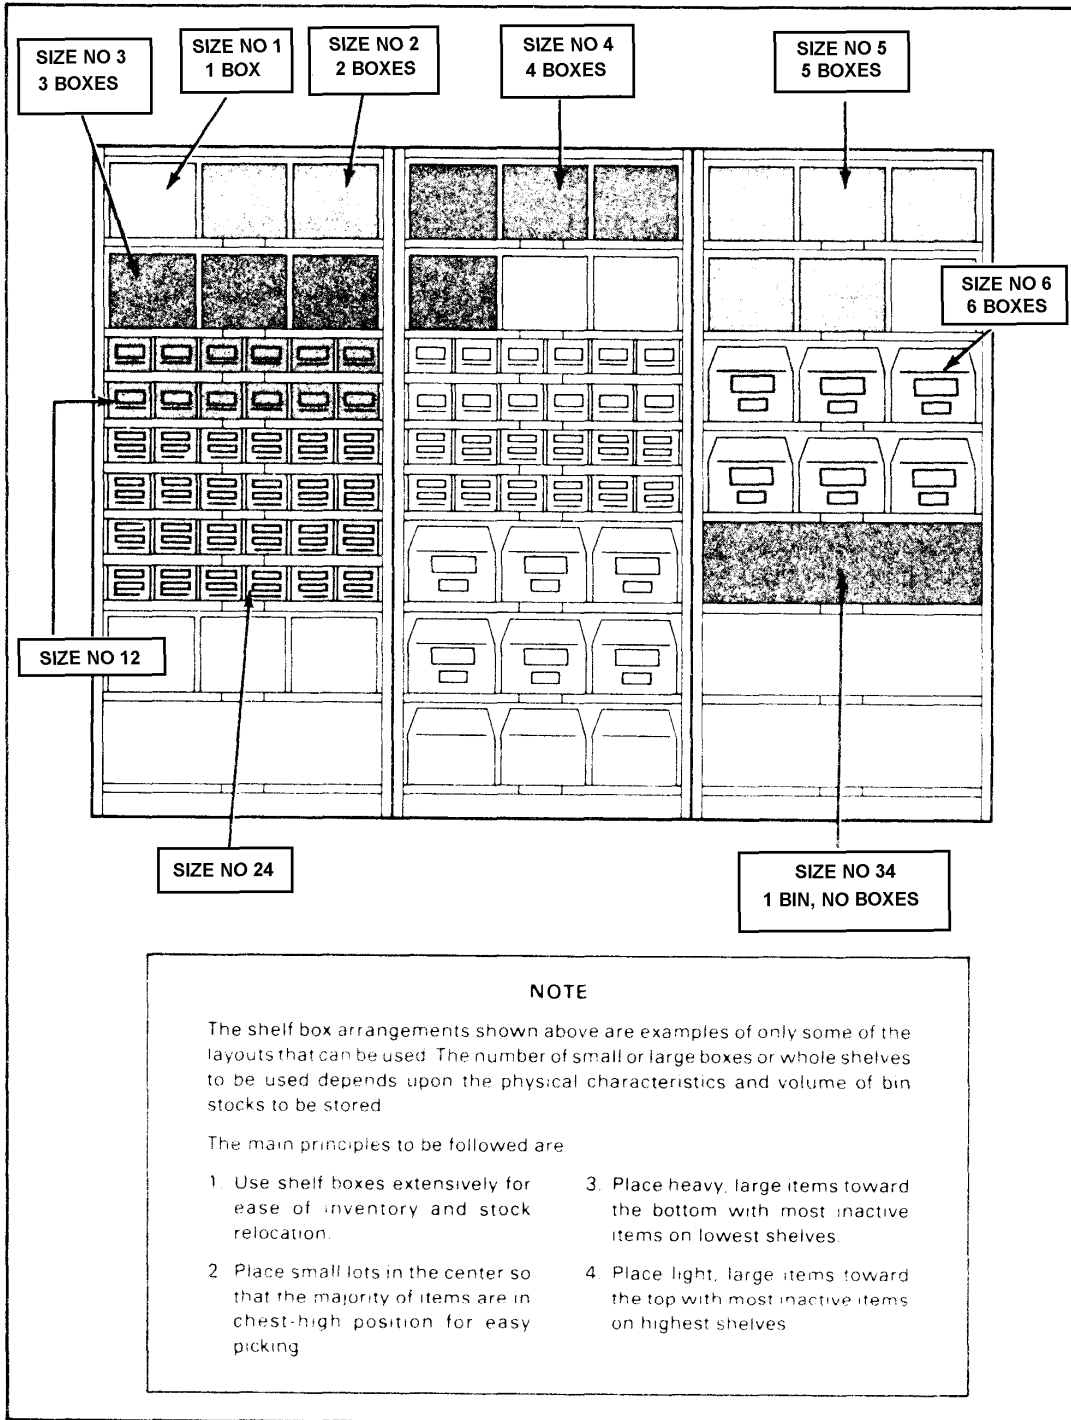

Figure 5-7. Shelf box arrangement
- Do not mix items in bins. Store small, loose items in boxes instead of directly on the shelves. You can stack items in them since their walls support the items. You can double-stack boxes on a bin shelf. You can also relocate an item with the contents still inside the box. Figure 5-7 shows how the various sizes of shelf boxes can be used to store bin items. If no containers are available, put retaining strips across the front of the shelves to hold items in place. You should estimate the number and kinds of storage aids you need before you sketch the final bin layout. When you use bins, you reduce the problems with security and inventory that arise when broken cases of bin-type supplies are found in bulk storage locations.